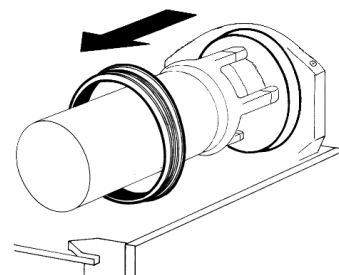

figure 12
- 4 - Remove the bowl gasket from its seat (see figure 12).